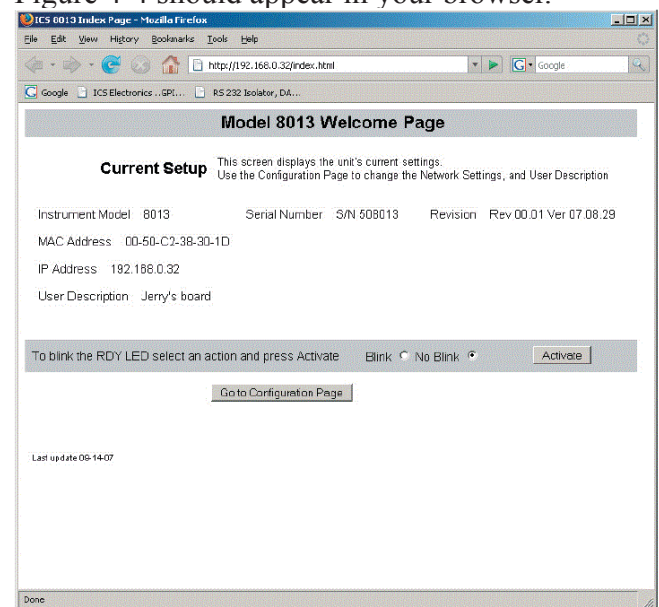

Figure 4-3 9006 Welcome Page
5. A Welcome Page similar to the one shown Figure 4-3 should appear in your browser.